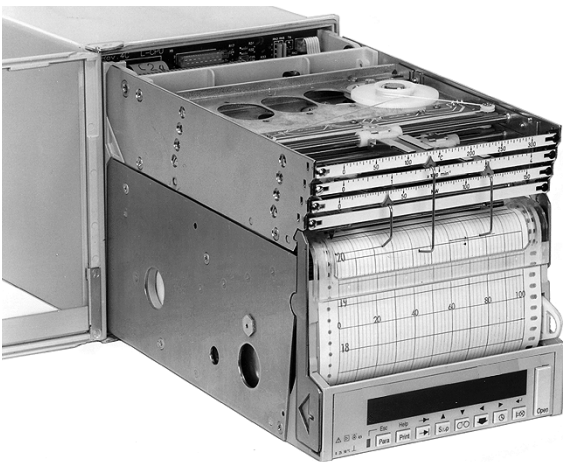

Figure 7
1. Unlock the plug-in and pull it to the front (see Figure 6 and Figure 7).